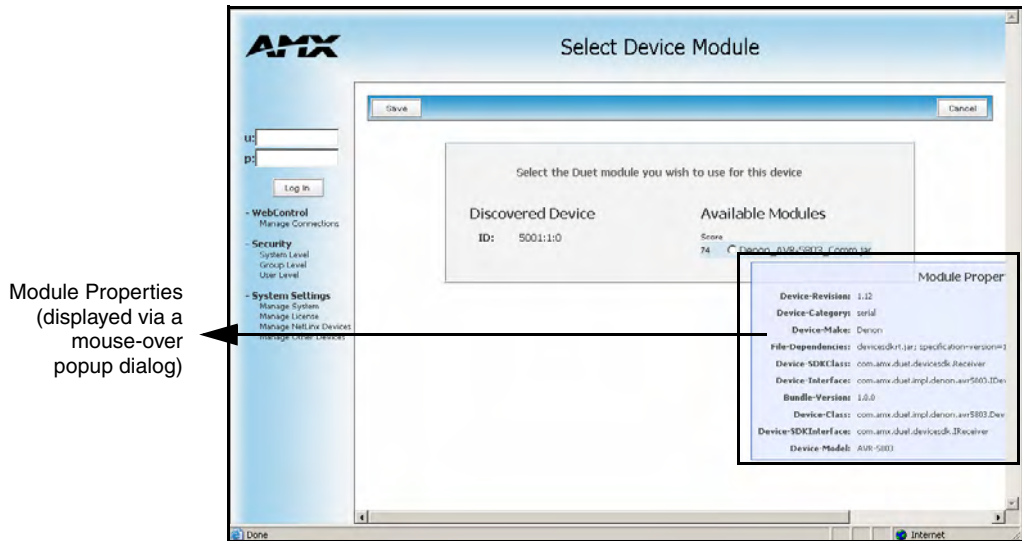

FIG. 84 Select Device Module page
Once a list of all compatible modules is compiled, the Select Device Module page (FIG. 84) is then displayed with a listing of each module along with its calculated "match" value. The greater the "match" value, the better the match between the Duet Module's properties and the physical device's properties.
- Any available modules on either the amx.com, AMX's partner website, or within the physical device itself are downloaded to the Master and then displayed back within the Select Device Module page (FIG. 84 on page 126). The discovered device is then shown with an adjacent listing of available modules ranked with associated "match" score.